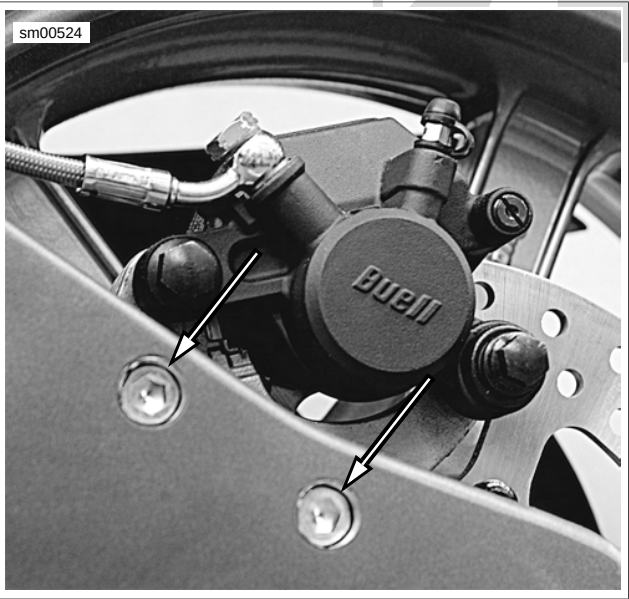

Figure 2-19. Rear Brake Caliper Carrier Fasteners
- 2. See Figure 2-19. Remove caliper carrier from swingarm by removing caliper carrier fasteners. See 2.14 REAR BRAKE CALIPER.